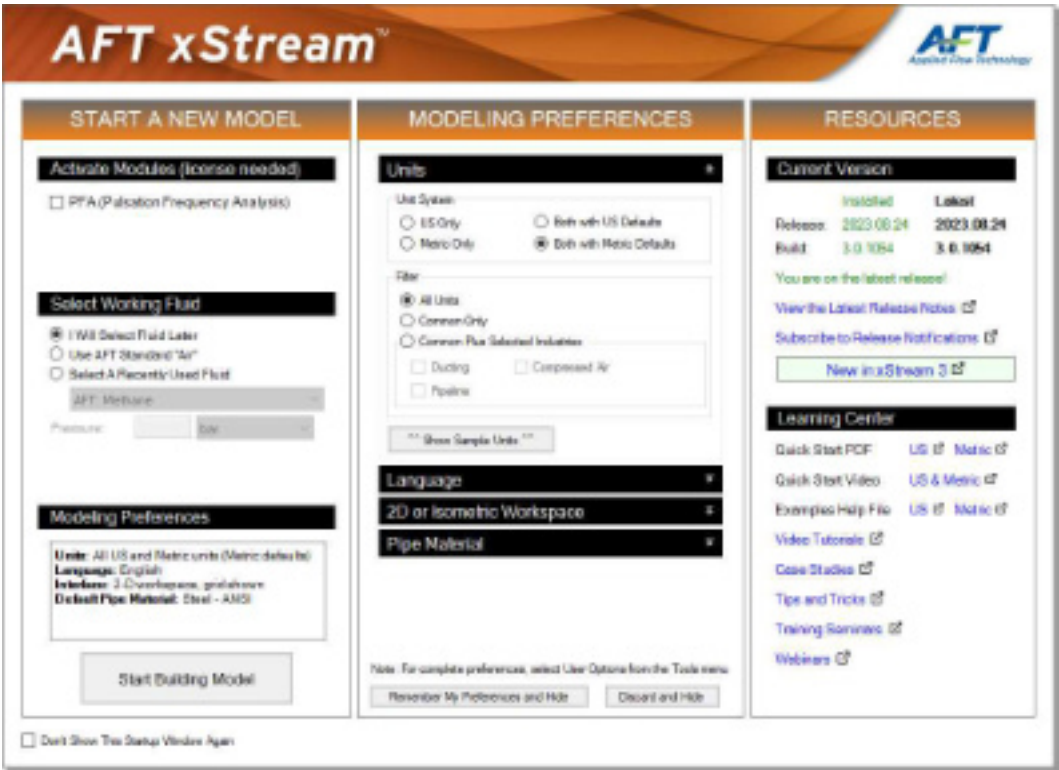

Figure 2.2 Startup Window with Modeling Preferences expanded
If this is the first time that you have started AFT xStream, Modeling Preferences will be expanded in the middle section of the Startup Window, as shown by Figure 2.2. If this is not the first time that you
- **With Modeling Preference expanded, as in Figure 2.2, select Both with Metric Defaults under Unit System.** The Filter section can be used to limit the number of units that are shown in the interface.